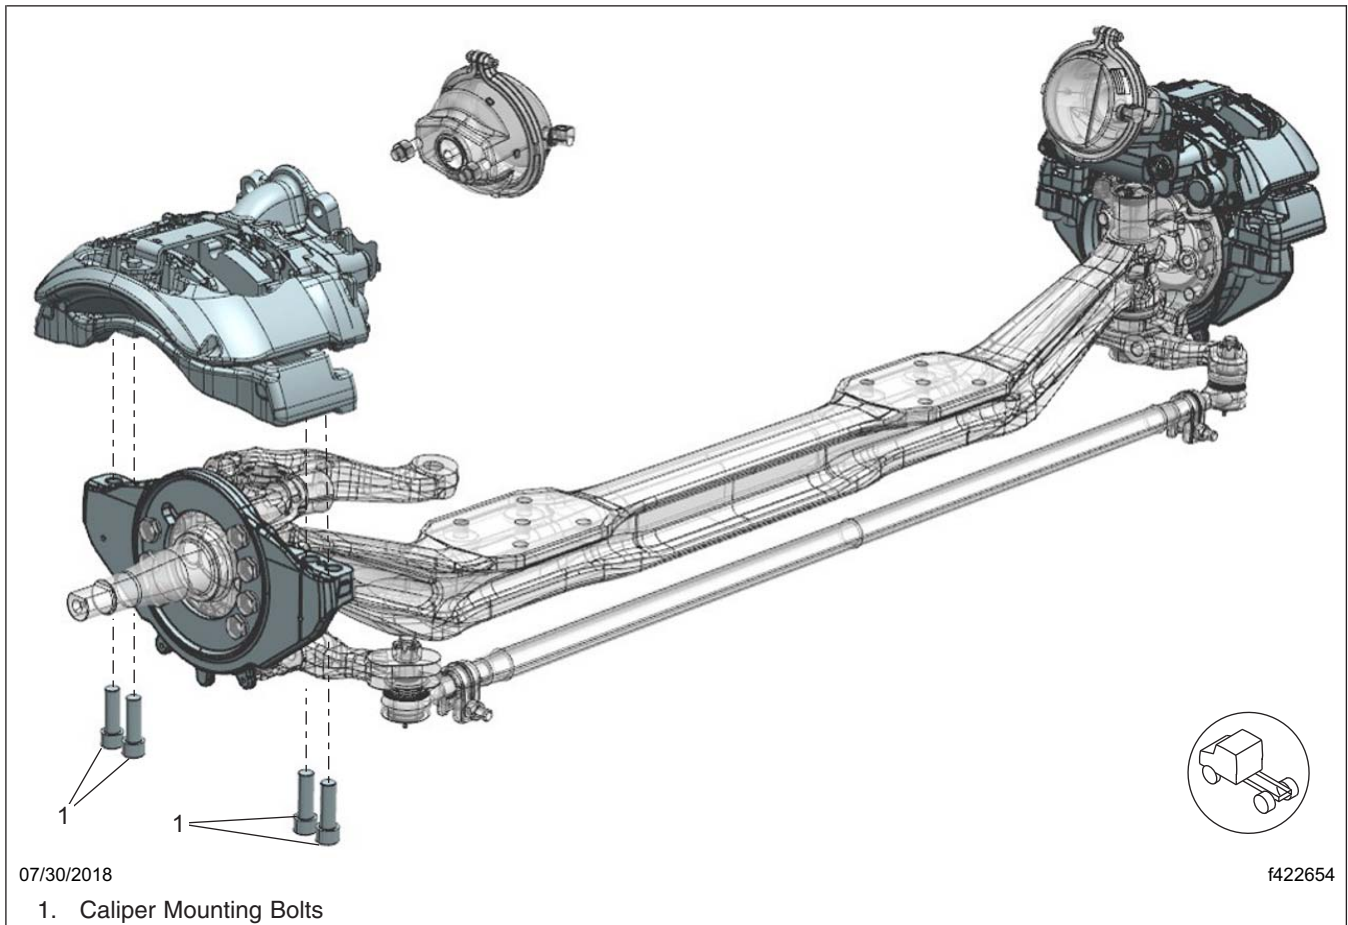
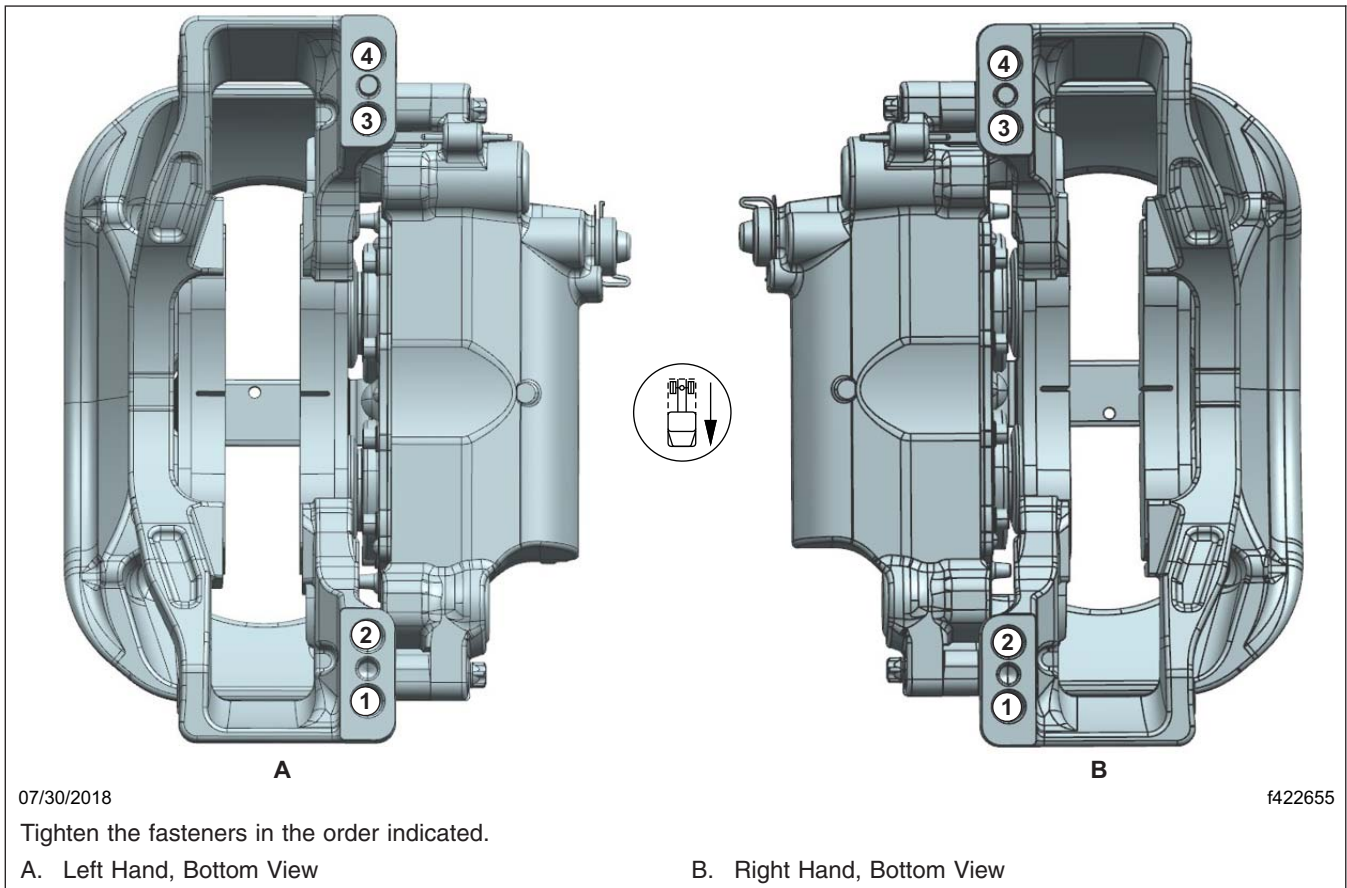

Fig. 7, Meritor Radial Mounted Caliper
Fig. 8, Tightening Pattern, Meritor Caliper
9. Align each caliper/carrier assembly with the rotor by pushing the fixed pin side of the caliper against the shelf on the torque plate, then install the caliper/carrier assembly using new caliper mounting bolts. See Fig. 7 and Fig. 8.
10. Tighten the carrier mounting bolts in two steps, using the pattern shown in **Fig. 8**.